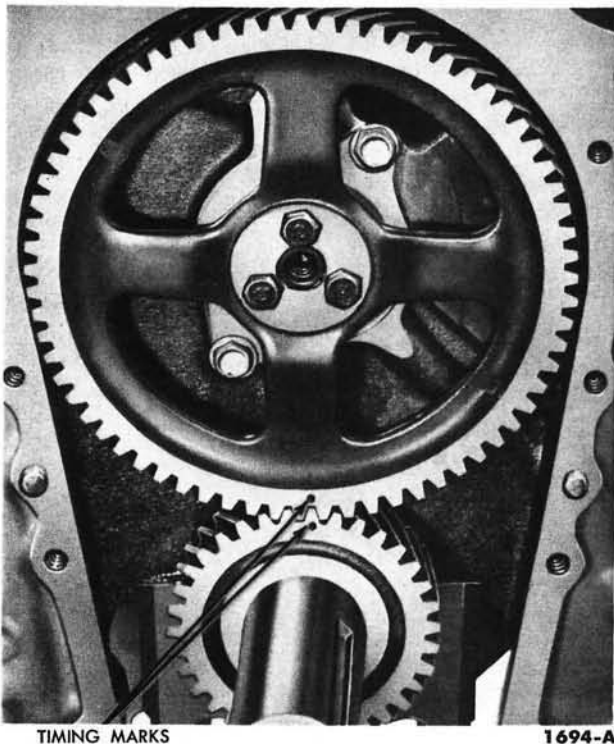
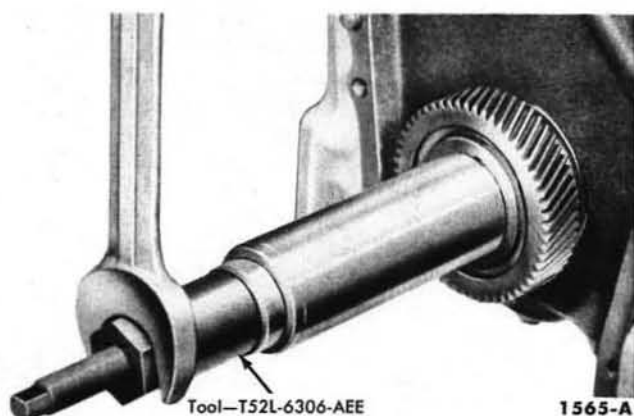

FIG. 31—Timing Gear Alignment
FIG. 34—Crankshaft Gear Installation
3. Remove the crankshaft front oil slinger. Align the timing marks on the timing gears (Fig. 31) and remove the camshaft gear retaining bolts, then remove the camshaft gear.
1. Install the crankshaft gear (Fig. 34) and the camshaft gear with the timing marks aligned (Fig. 31), then install the camshaft gear retaining bolts. **The bolts are unequally spaced.** Tighten the bolts to 12-15 foot-pounds torque. Install the crankshaft front oil slinger.
3. Remove the crankshaft front oil slinger. Align the timing marks on the camshaft and crankshaft timing gears (Fig. 31).
1. Oil the camshaft and carefully slide it through the bearings with the gear, spacer and thrust plate attached (Fig. 37). Be sure the camshaft is installed so that the timing mark on the camshaft gear is aligned with the timing mark on the crankshaft gear (Fig. 31). Install the thrust plate retaining bolts and tighten them to 12-15 foot-pounds torque.